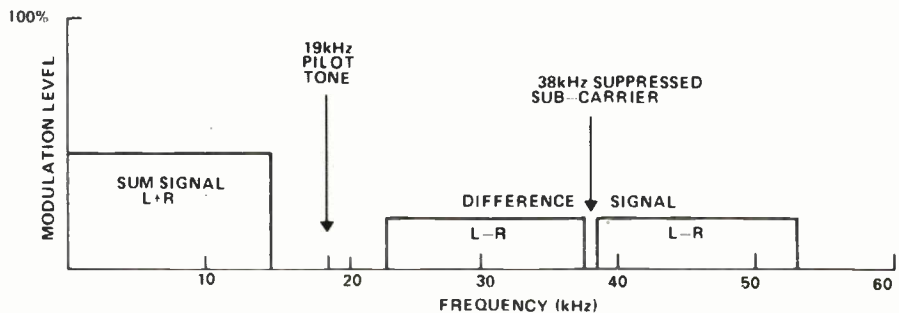

Fig. 20. The frequency spectrum of a stereo multiplex signal.
The demodulated signal is a multiplex one containing a number of separate parts as shown in Fig. 20. They are:
- (1) The normal audio signal which has a waveform representing the sum of the signals in the left and right hand channels. If monaural reception is being employed, this sum signal is used as the audio output. As shown in Fig. 20, the maximum frequency of this signal is 5 kHz.
- (2) A low level 19 kHz pilot tone which is synchronised with a 38 kHz sub-carrier. This pilot tone is required for the operation of the stereo decoder circuit.
- (3) A left minus right signal which is modulated onto a 38 kHz sub-carrier. This signal is proportional to the sound amplitude in the left channel minus that in the right channel, the maximum frequency in each channel being 15 kHz. Thus the modulated left minus right signal occupies a frequency band of 38 + 15 kHz — that is from 23 kHz to 53 kHz as shown in Fig. 20. There is a small gap in this signal at 38 kHz, since no audio frequencies below about 30 Hz are transmitted.
- (4) The 38 kHz sub-carrier itself is suppressed at the transmitter to a level of not more than 1% of the total signal.
It can be seen from Fig. 20 that a